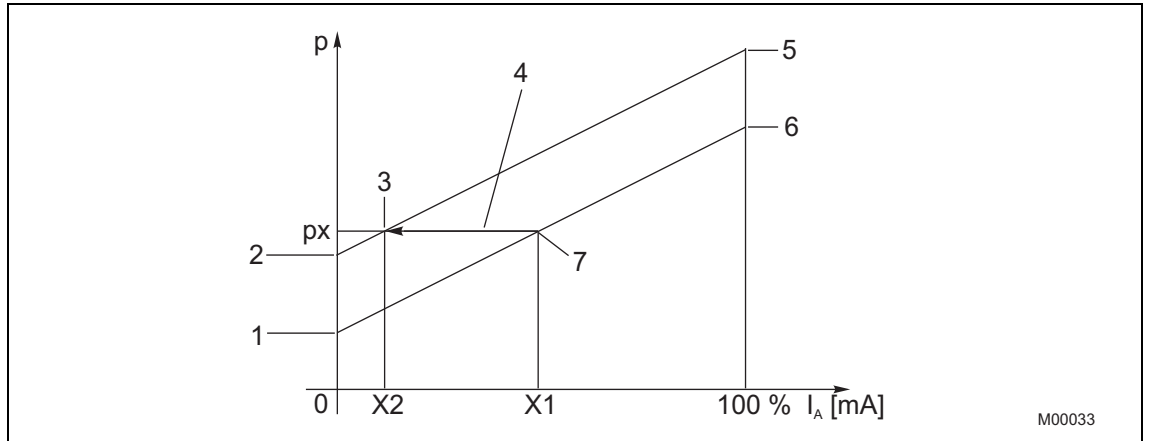

Fig. 19: Offset shift
- When a pressure p_x is applied, the pressure transmitter displays the standardized output value x_1 as a percentage. Based on the current application, however, the value x_2 should be displayed. The value x_2 is now set via the local control unit/LCD. The transmitter calculates the new zero position and the new end value, and adopts these settings (see Fig. 19, Offset shift).